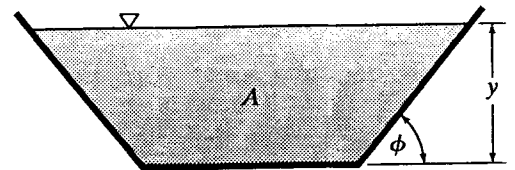

Figure P10.14
10.14 Set up a general expression for the wetted perimeter  $P$  of a trapezoidal channel in terms of the cross-sectional area  $A$ , depth  $y$ , and angle of side slope  $\phi$  (Fig. P10.14). Then differentiate  $P$  with respect to  $y$  with  $A$  and  $\phi$  held constant. From this prove that  $R_h = y/2$  for the section of greatest hydraulic efficiency (i.e., smallest  $P$  for a given  $A$ ).